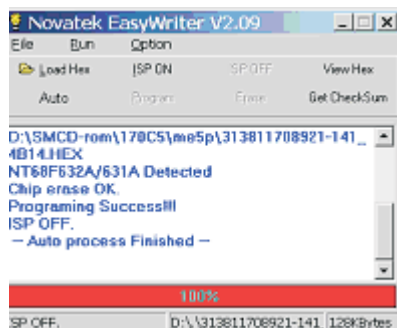

Fig.9
3. Press the AUTO to running program , the firmware be updated as shown in Fig. 9.